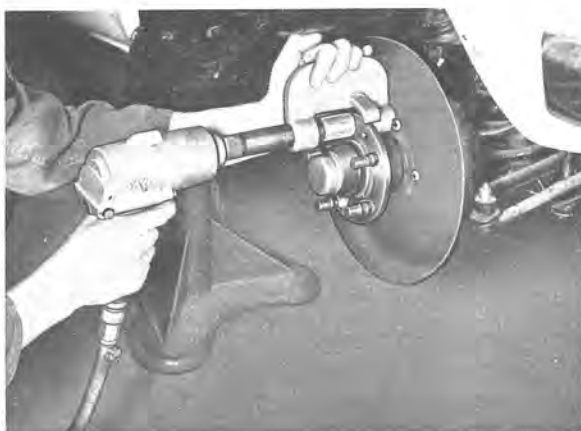

Fig. 7-18. Installing wheel stud
6. Place the tool in position (see Fig. 7-18) and use a nut runner to screw in the stud completely.